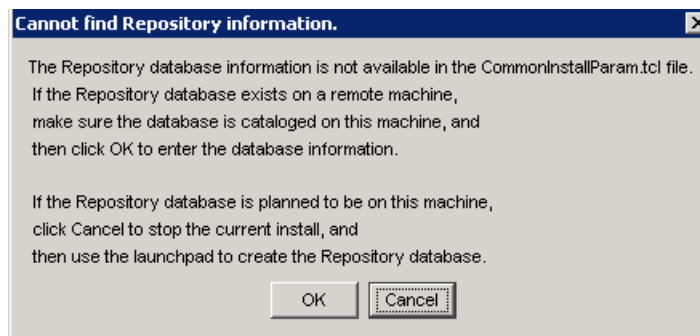

Figure B-15 Repository database not found on localhost
- ▶ For our installation we first receive a warning that the repository database is not available (Figure B-15).